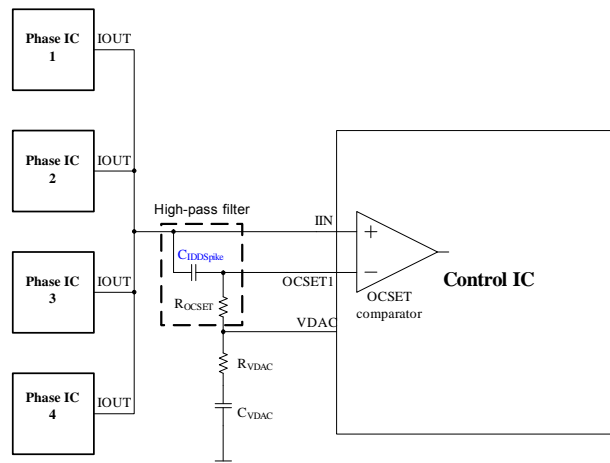

Figure 19 C_IDDSpike and R_OCSET form a High Pass Filter
The IDD_Spike over current threshold can be implemented by incorporation a properly sized capacitor between the OCSET (18) and the IN1 (21) pins (see Figure 19).